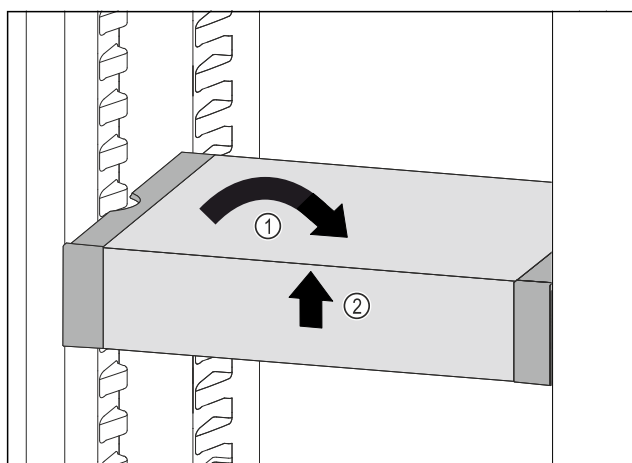

Fig. 130
- Set VarioSafe straight. Fig. 130 (1)
- Lift VarioSafe at the front. Fig. 130 (2)